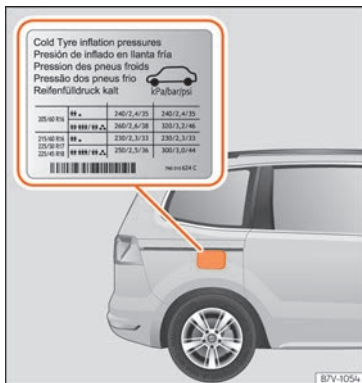

Fig. 295 Position of tyre pressure specification plate
- Adjust tyre pressure to the load being carried by the vehicle »» **Fig. 295**.
»» **Fig. 295** is either on the driver door strut or inside the fuel tank flap.
»» **Fig. 295**.
- The driver is responsible for ensuring that all of the vehicle tyres are correctly inflated to the right pressure. The recommended tyre pressure is indicated on the label »» **Fig. 295**.
- When the tyres are cold, tyre pressure should be that indicated on the label »» **Fig. 295**.